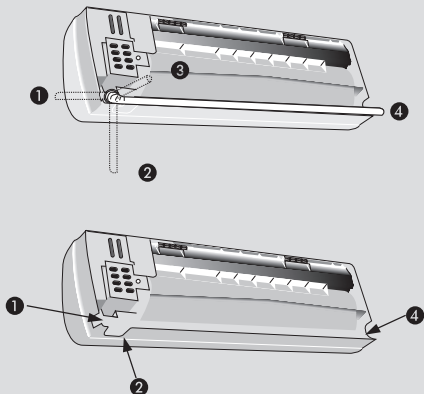
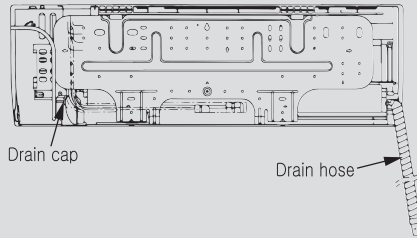

Figure 3
Figure 9
- The piping can be connected to the four directions indicated by ①, ②, ③, ④. When the piping is connected to the direction of ①, ② or ④, detach the knock-out either at the side or at the bottom of the unit. (Fig. 3)
- Drain hose and drain cap are assembled as shown in figure 9 in the factory. To do right-side(①), right-bottom(②) or right-back(③) piping in figure 3, draw the drain hose to right-side piping direction.(It is not necessary to exchange the location of drain hose and drain cap.)